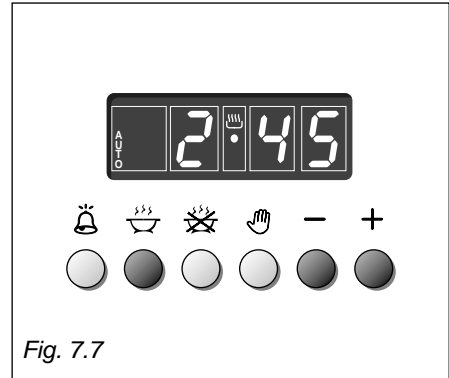

Fig. 7.7
1. Set the length of time you need to cook the food by pushing the  button and the \oplus button to advance, or \ominus to go backwards (Fig. 7.7). This sets the desired "stop" time.